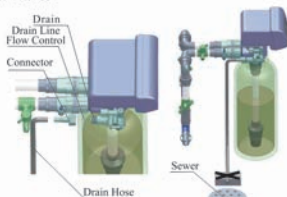

Figure 1-4
a. As the Figure 1-4 shows, slide the drain hose connector into drain outlet.
d. Locate the drain hose well as the Figure1-4 shows.
● Be sure not connect drain with sewer directly, and leave a certain space between them, avoid wastewater being absorbing to the water treatment equipment, such as showed in the Figure1-4.